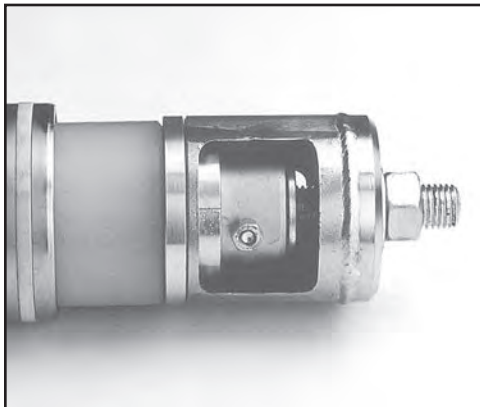

FIG. 68: SEGMENTED RINGS IN PLACE
20. Use a screw driver to place the segmented rings into the groove of the control tube (see Fig. 68).